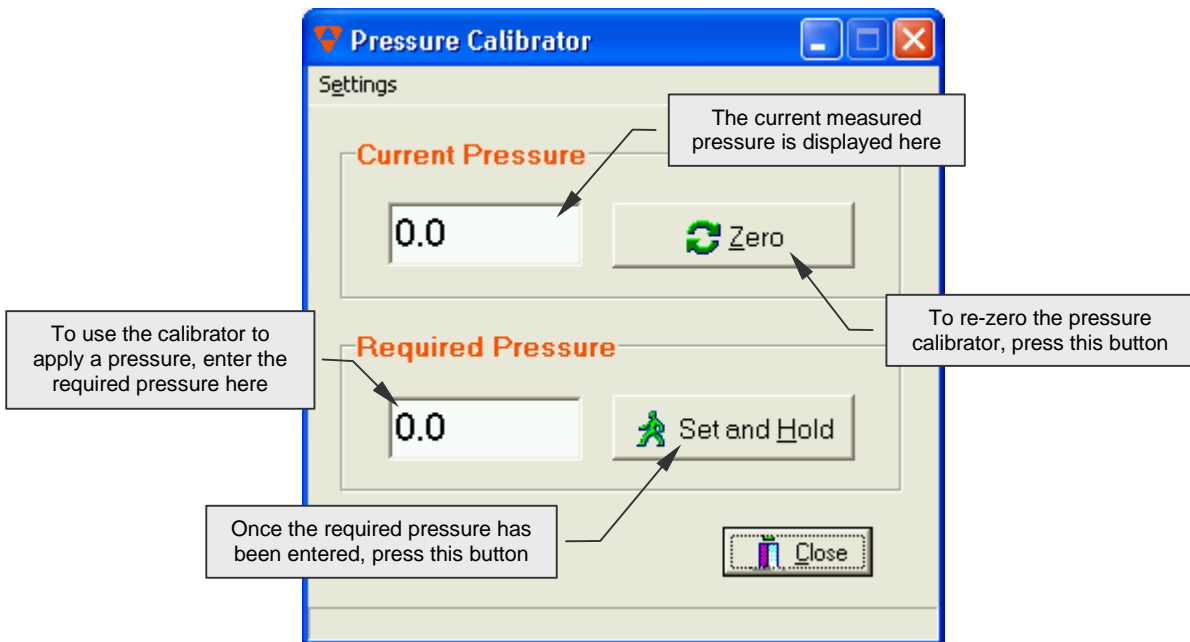

Figure 3: Pressure Calibrator window
3. The measured pressure will be displayed in the **Current Pressure** box in the Pressure Calibrator window (see Figure 3)
3. If using the Pressure Calibrator for the first time, go to the **Settings** menu in the top left-hand portion of the window (see Figure 3) and choose **Find Home**. This will reset the pressure cylinder to the centre of its range, thus allowing application of the full range of pressures
4. Enter the pressure to be applied in the **Required Pressure** box of the Pressure Calibrator window (see Figure 3)
5. Click the **Set and Hold** button to apply the pressure (see Figure 3)